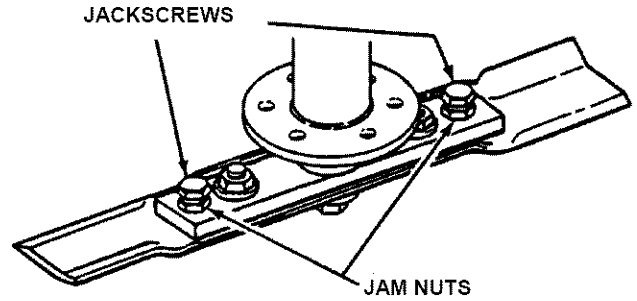

FIGURE 4.6
- b. Adjust jack screws "IN" or "OUT" until blade tip measurements are within  $1/16"$  of each other and blade tips are  $3/8"$  away from deck lip. See Figure 4.6.